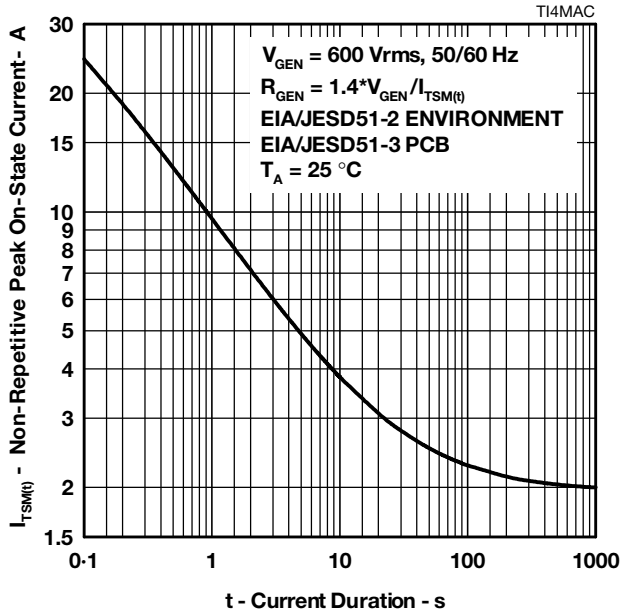

Figure 9.
5. EIA/JESD51-2 environment and EIA/JESD51-3 PCB with standard footprint dimensions connected with 5 A rated printed wiring track widths. See Figure 9 for the current ratings at other durations. Derate current values at $-0.61\%/\text{C}$ for ambient temperatures above 25°C .
The protector can withstand currents applied for times not exceeding those shown in Figure 9. Currents that exceed these times must be terminated or reduced to avoid protector failure. Fuses, PTC (Positive Temperature Coefficient) thermistors and fusible resistors are overcurrent protection devices which can be used to reduce the current flow. Protective fuses may range from a few hundred milliamperes to one ampere. In some cases, it may be necessary to add some extra series resistance to prevent the fuse opening during impulse testing. The current versus time characteristic of the overcurrent protector must be below the line shown in Figure 9. In some cases, there may be a further time limit imposed by the test standard (e.g. UL 1459 wiring simulator failure).